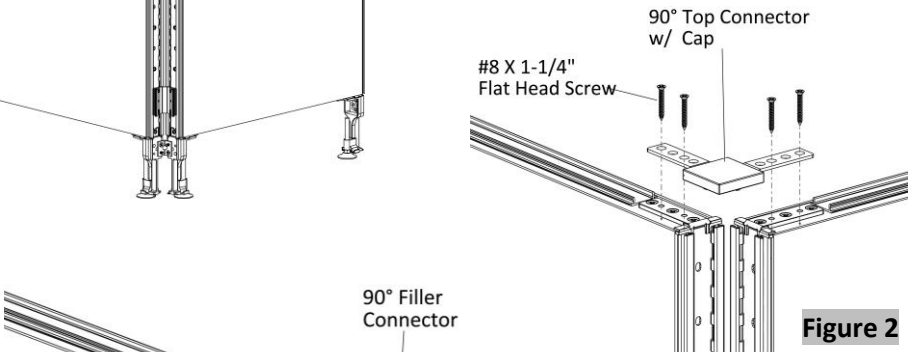

Figure 2
- 3. Position the 90-degree top connector with a cap on the top corner of the panel which is to be connected, (Figure 2).